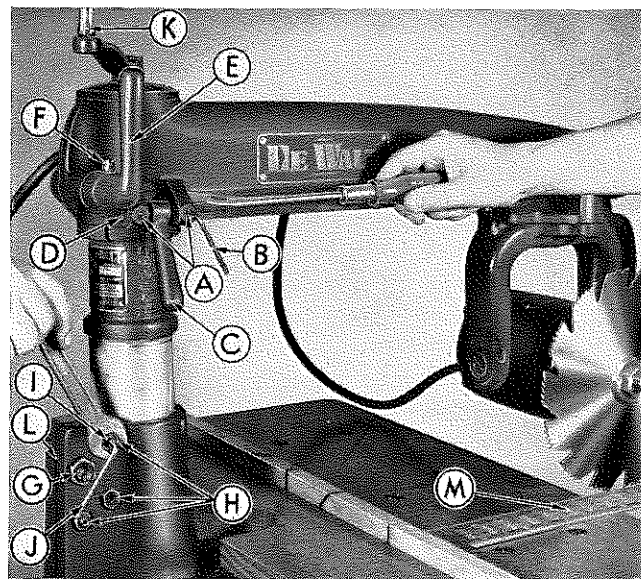

FIGURE 9
Place wide board on table top against guide fence and cut across with saw blade. Check material for accuracy with steel square. If the saw blade does not cut square ... this means that the arm is out of alignment with the guide fence. To adjust this condition refer to Figure 9.
If at any time you have some side motion at the end of the arm after the arm clamp handle (E) is tightened . . . this indicates that there is play between the column and base. Refer to Figs. 9 and 10.
1. Loosen base pinch bolt (G) . . . all hex jam nuts (H) . . . and all set screws (I).
2. Rotate elevating crank handle (K) to raise or lower the column. Tighten base pinch bolt (G) so column still raises or lowers freely. There should be no excess play between column and base after you have tightened this base pinch bolt . . . yet the column must be so set that it elevates evenly.
3. In the base slot is an adjusting gib (L). This gib must be secured against column key (2D) to prevent side motion in the arm. If this gib (L) is loose . . . you tighten the top set screws (J) with wrench (I) until there is no play (side motion) in the column. Then lock all hex jam nuts (H) securely with open end wrench.